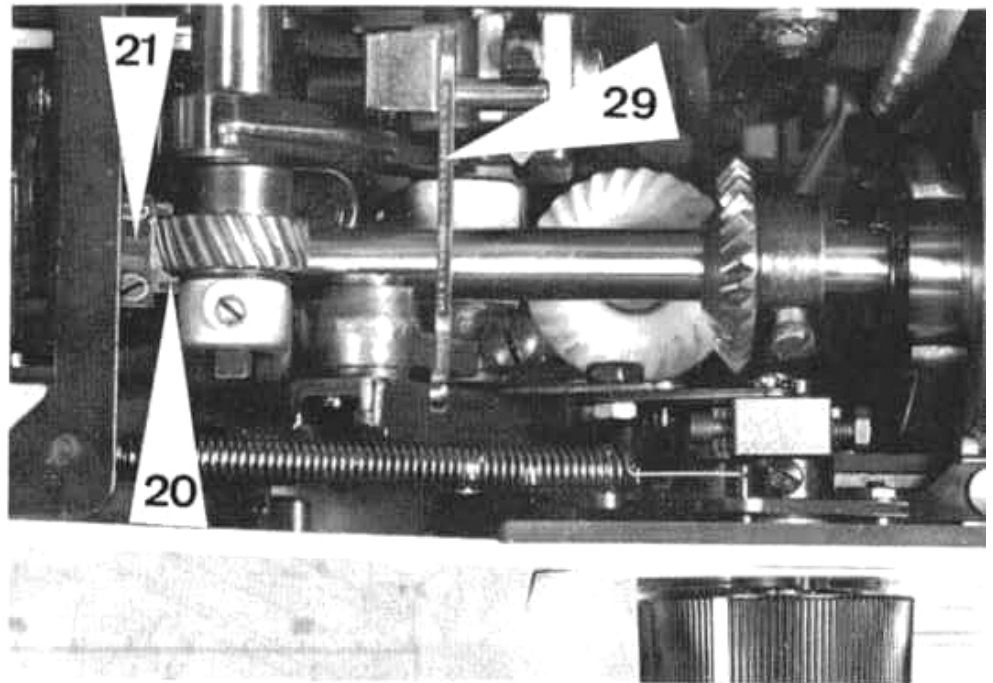

Fig. 12
Loosen the two screws on worm wheel (20). Then, using the screwdriver, secure the worm wheel (20) which is loose on the spindle while pressing the setting ring (21) and turning the handwheel until the correct setting is found (Fig. 12).